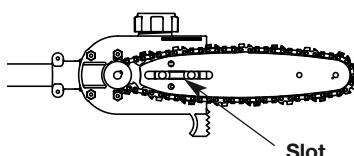

Fig. 10
6. Adjust the tension adjustment screw (Fig. 8, A) to allow insertion of the bar (Fig. 10). Make sure the chain follows the slot in the guide bar and adjust the tension adjustment screw to make the chain fit snugly on the underside of the bar.